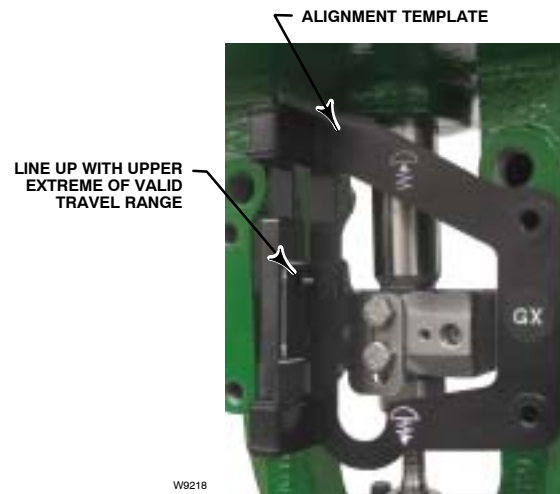

Figure 2-8. Air-to-Open Fisher GX Magnet Array Alignment
3. Vertically align the magnet array such that the center line of the alignment template is lined up as close as possible with the upper extreme of the valid travel range on the feedback array. See figure 2-8.